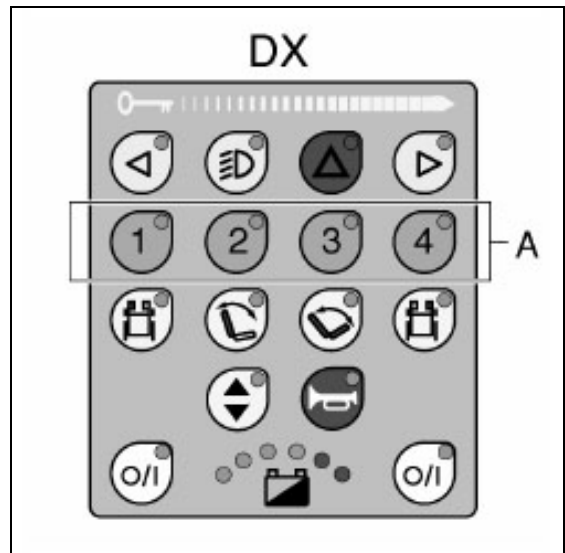

Figure 3.6
- With key 1, 2, 3 or 4 (A in fig. 3.6) for controller 'DX'.